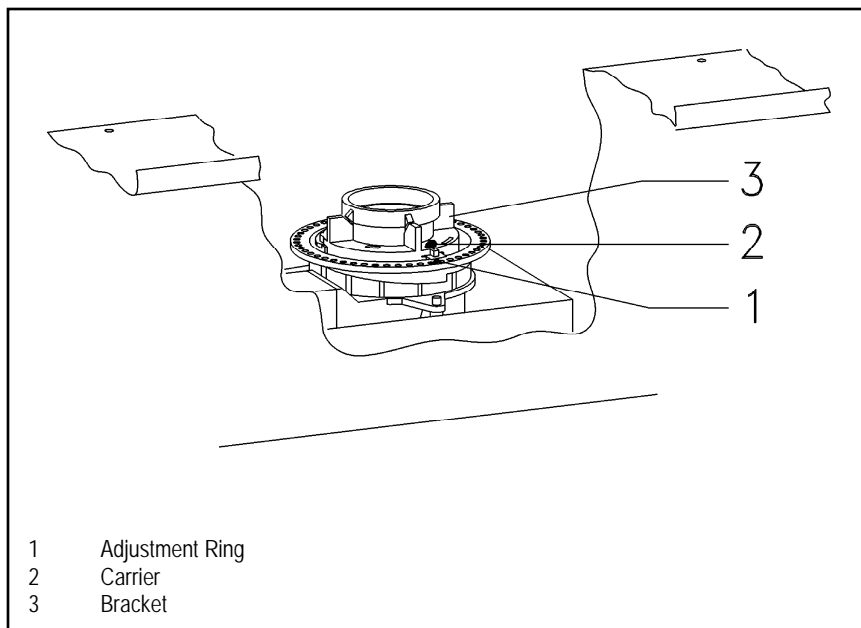

Figure 5-45: Grinder
9. Turn the Adjustment Ring (Figure 5-45, Item 1) counterclockwise until the blue marking aligns with the blue marking on the carrier (Figure 5-45, Item 2).
10. Remove the bracket (Figure 5-45, Item 3).